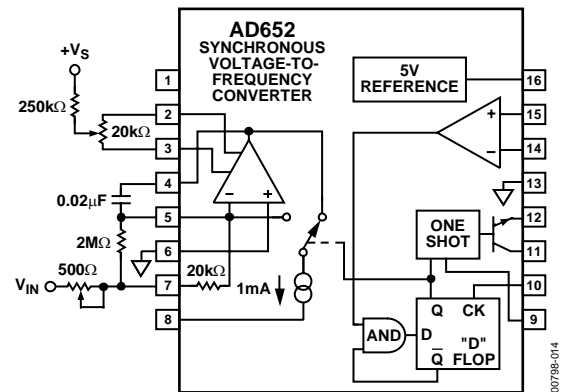
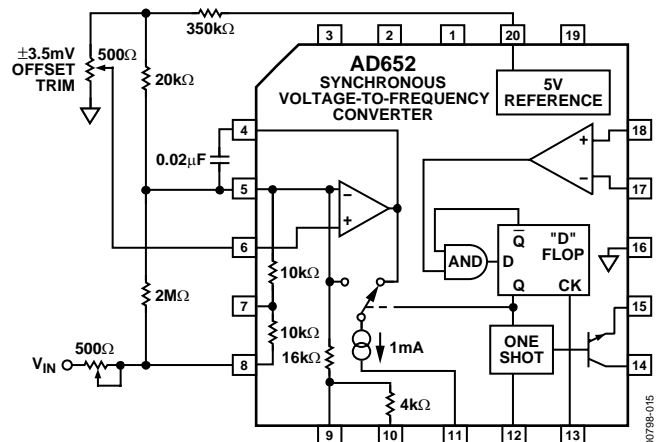

Figure 14. CERDIP Gain and Offset Trim
Figure 15. PLCC Gain and Offset Trim
The gain error of the AD652 is laser trimmed to within  $\pm 0.5\%$ . If higher accuracy is required, the internal 20 k $\Omega$  resistor must be shunted with a 2 M $\Omega$  resistor to produce a parallel equivalent that is 1% lower in value than the nominal 20 k $\Omega$ . Full-scale adjustment is then accomplished using a 500  $\Omega$  series trimmer. See Figure 14 and Figure 15. When negative input voltages are used, this 500  $\Omega$  trimmer is tied to ground and Pin 6 is the input pin.
The offset of the op amp may be trimmed to zero with the trim scheme shown in Figure 14 for the CERDIP package and Figure 15 for the PLCC package. One way of trimming the offset is by grounding Pin 7 (8) of the CERDIP (PLCC) device and observing the waveform at Pin 4. If the offset voltage of the op amp is positive, the integrator has saturated and the voltage is at the positive rail. If the offset voltage is negative, there is a small effective input current that causes the AD652 to oscillate; a sawtooth waveform is observed at Pin 4. The potentiometer should be adjusted until the downward slope of this sawtooth becomes very slow, down to a frequency of 1 Hz or less. In an analog-to-digital conversion application, an easier way to trim the offset is to apply a small input voltage, such as 0.01% of the full-scale voltage, and adjust the potentiometer until the correct digital output is reached.